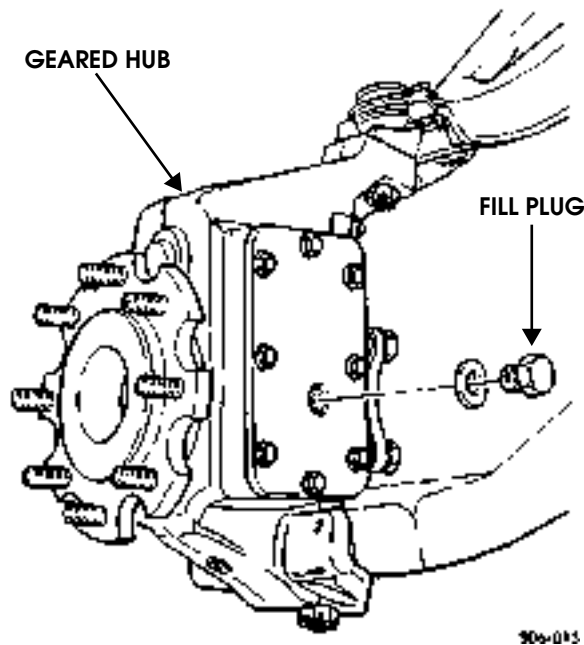

Figure 9-40: Geared Hub Fill Plug Location
17. Remove fill plug and washer from geared hub (Figure 9-40).
18. Remove fill plug and washer from geared hub (Figure 9-40).